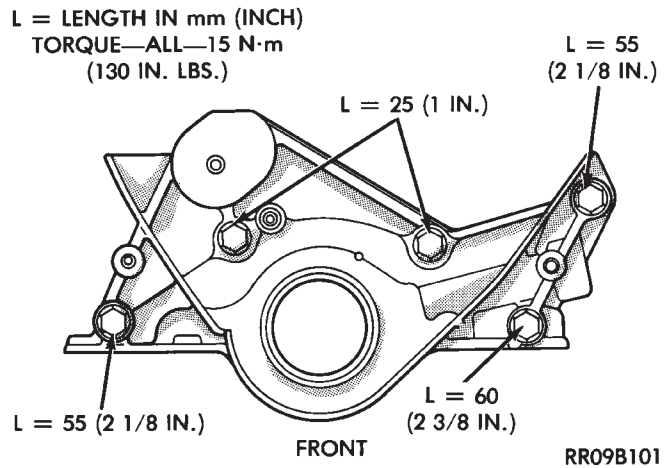
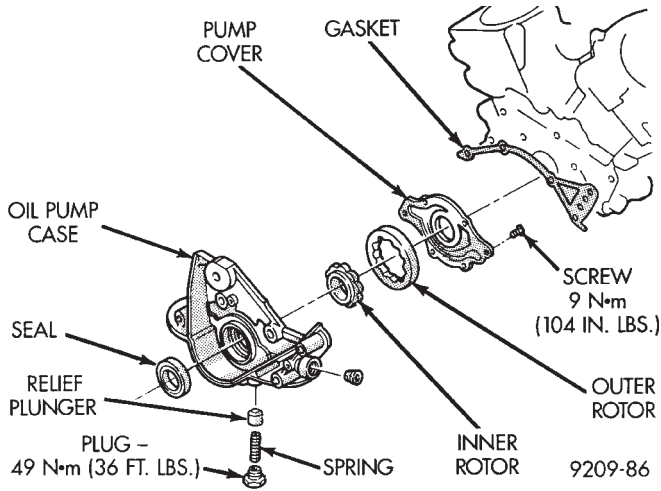

Fig. 6 Oil Pump Assembly
Fig. 7 Oil Pump Components
Remove 5 bolts that attach oil pump to block (Fig. 6).
- (1) Clean block and pump surfaces.
- (2) Install new gasket (Fig. 7) make sure correct length bolts are used (Fig. 6).
- (3) Torque bolts to 13 N•m (120 in. lbs.).